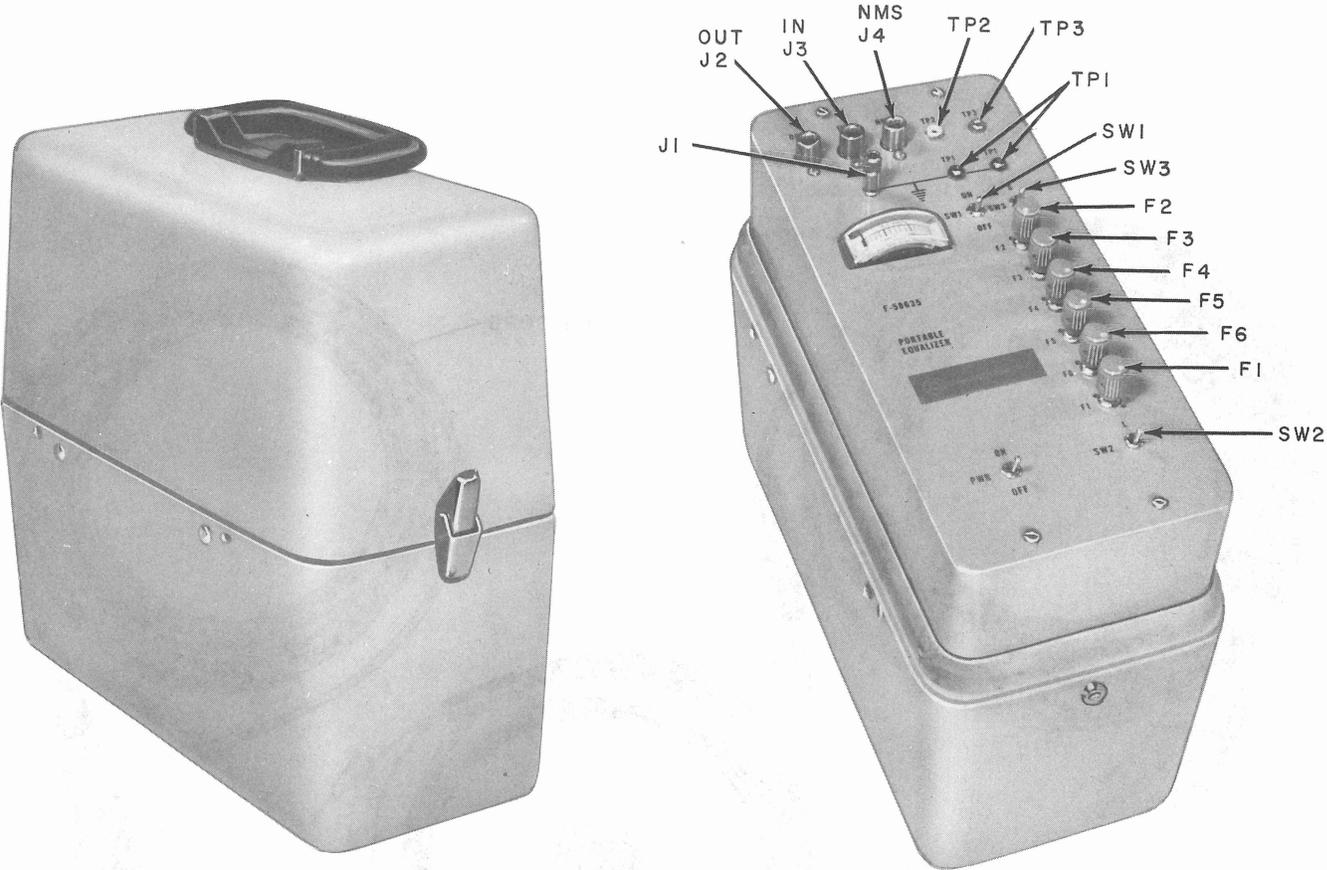

Fig. 2—Portable Equalizer
- (2) One F58635 Portable Equalizer (PE) (Fig. 2)